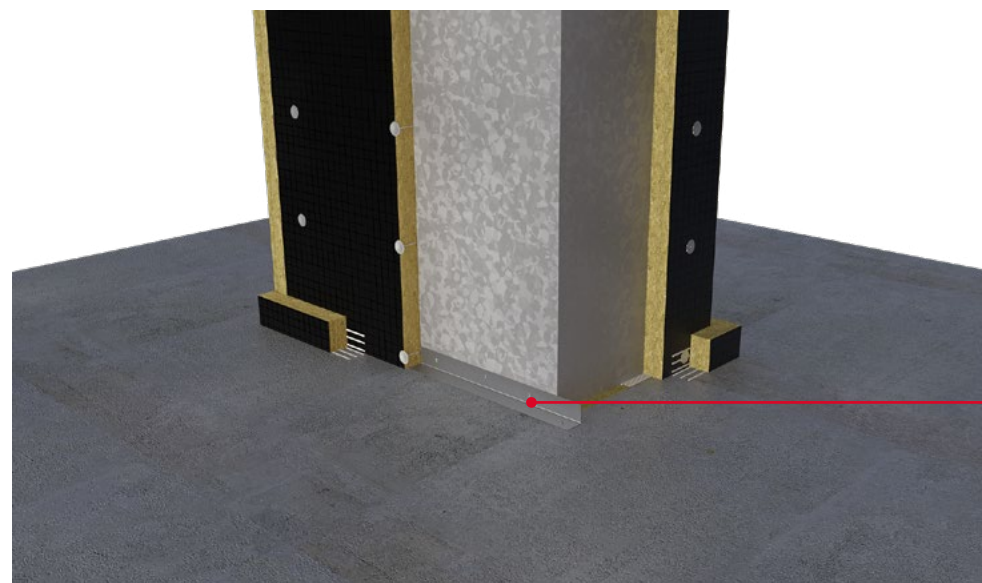

Figure 11b
2. Secure the duct to the floor structure using 4 no. 50mm x 50mm x 45mm x 2.5mm galvanised steel angles to both sides of the aperture. The angles can be fixed using 2 no. 3.2mm x 25mm self-tapping screws. Alternatively, the duct can be secured with a 40mm x 40mm x 3mm L profile as shown in Figure 11b. The length of the L profile should be equal to the width of the duct and installed to both sides (duct width).